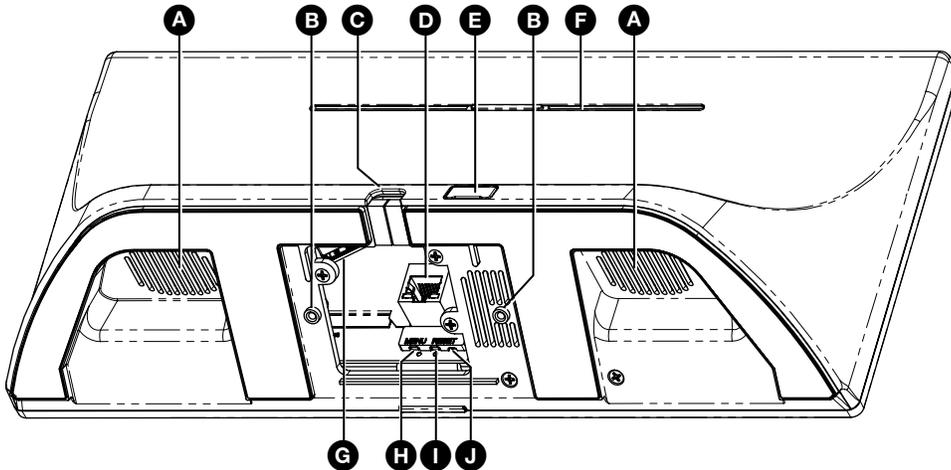

Figure 2. TLP Pro 1225TG Rear Panel and Base
1. Mark the location for two mounting holes, 4.96 inches (126 mm) apart (see figure 2, **B**, on page 3).
2. Connect a second straight-through cable from the power injector to the PoE/LAN connector of the touchpanel (see figure 2, **D**, on page 3). This cable carries the network information and 48 VDC from the power injector to the touchpanel.